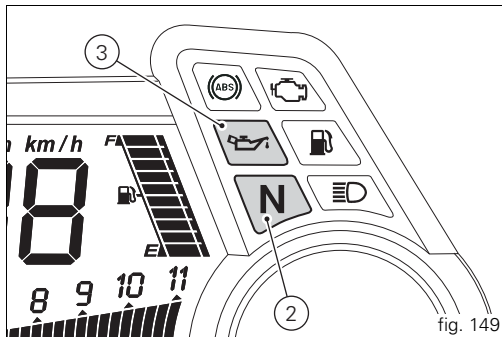

fig. 149
The instrument panel will perform the initialisation and will control the onboard systems, turning on all lights in sequence, from the bottom to the top, for a few seconds. After this control, only the green light (2, fig. 149) and the red light (3) must remain on.